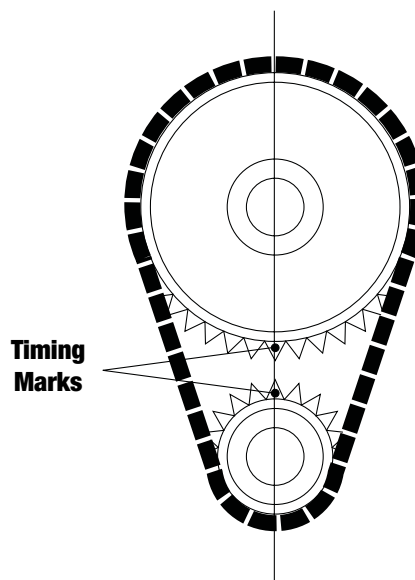

Figure 2 - Timing Chain Sprocket Alignment
O.E.M. or aftermarket long-slot rocker arms or roller rockers are necessary to prevent binding on the rocker stud at full lift. After the cam is installed and timed correctly (**See Fig. 2**), it will be necessary to check each pushrod for correct lifter preload.
17. Rotate engine until timing marks are aligned (**See Fig. 2**).
4. Line up camshaft with timing marks aligned (**See Fig. 2**).